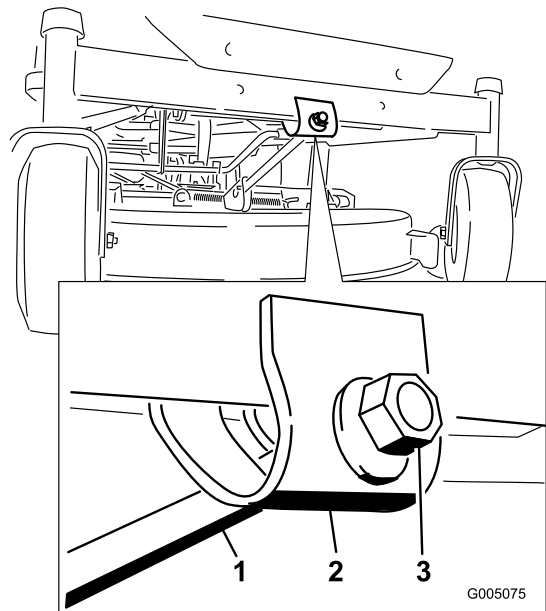

Figure 41
7. To adjust the front-to-rear blade slope, rotate the adjustment nut in the front of the mower (Figure 41).